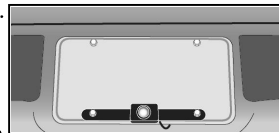

Fig. 2
4. You will need to choose a route for the camera's power cable through the vehicle's body to the reverse light circuit. (Fig. 2)